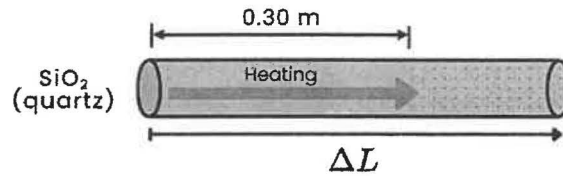

Figure 1: SiO_2 (quartz) tube.
- (a) Figure 1 shows a 0.30 m long SiO_2 (quartz) tube is heated from 20°C to 850°C . Calculate the increase in length due to heating. (Given: Linear coefficient of thermal expansion, α , $\text{SiO}_2 = 0.55 \times 10^{-6} \text{ }^\circ\text{C}^{-1}$)